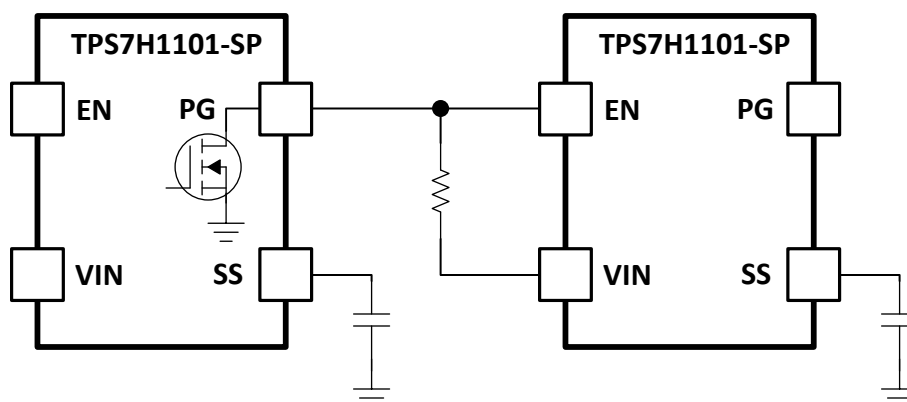

Figure 11. Sequencing LDOs with Power Good
7.3.2 Power Good (PG)
Power Good terminal (9) is an open-drain connection and can be used to sequence multiple LDOs. Figure 11 shows typical connection for $V_{IN} > 3.5 \text{ V}$. The PG terminal will be pulled low until the output voltage reaches 90% of its maximum level. At that point, the PG pin will be pulled up. Since the PG pin is open drain, it can be pulled up to any voltage as long as it does not exceed the absolute max of 7.5 V listed in the table.